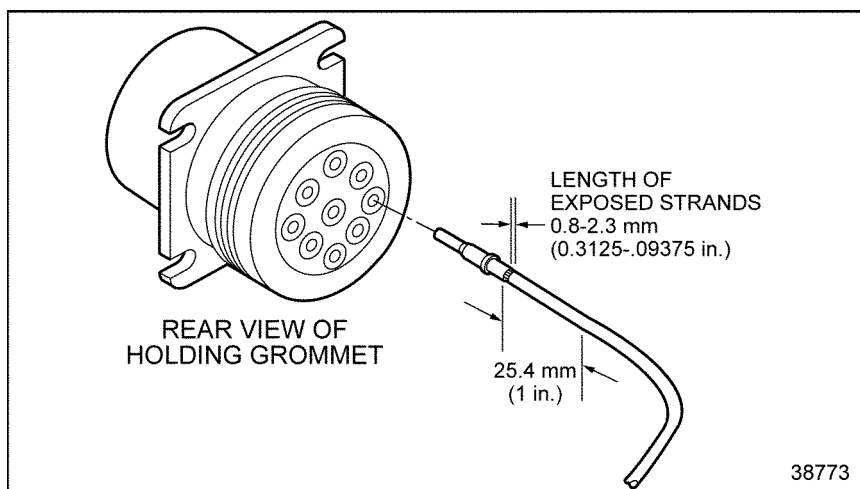
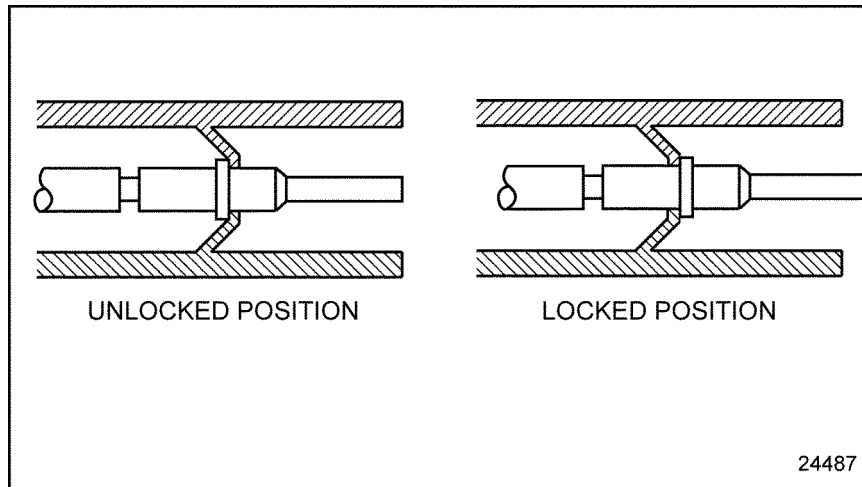

Figure 2-10 **Pushing Contact Into Grommet**
Figure 2-11 **Locking Terminal Into Connector**
5. Grasp the contact approximately one inch behind the contact crimp barrel. Hold the connector with the rear grommet facing you. See Figure 2-10.
6. Push the contact into the grommet until a positive stop is felt. See Figure 2-10. A slight tug will confirm that it is properly locked into place. See Figure 2-11.